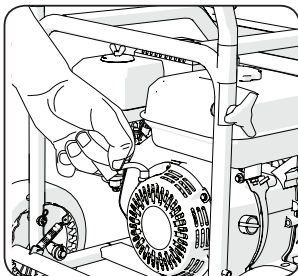

Fig 14
- Use your other hand to grip the recoil starter cord handle. **(Fig. 14)**